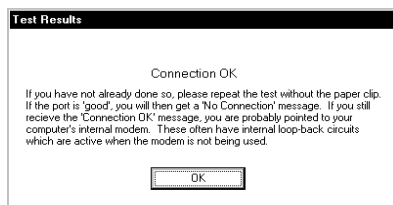
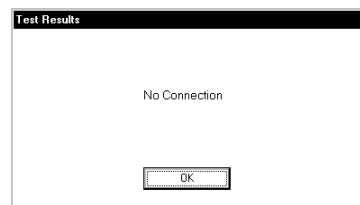

Figure 1
Figure 2
4. If the “Connection OK” message box (see fig. 1) is displayed, another device (such as a modem) is probably connected to that port. This is not the port you will be using with your meter. If the “No Connection” message box (see fig. 2) is displayed, this port may be the one connected to your serial cable and you can proceed to the next step.